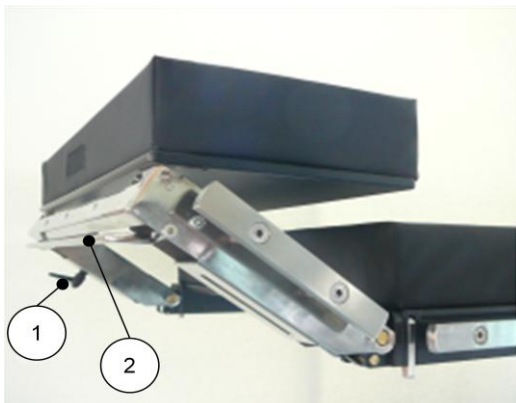

**Figure 13: Opening the locking latches**
- Raise the locking latches to their upper most position on both sides (Figure 13).